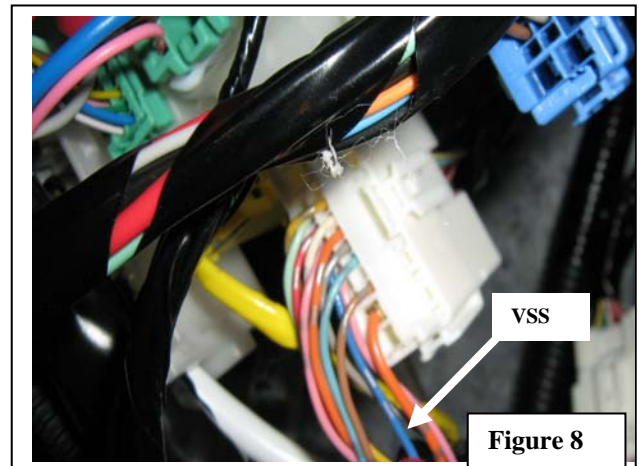

Figure 8
4. **VSS:** Locate the fuse/relay box under the driver side dash. Look for bottom **white connector** between yellow and blue connector. Connect the **Violet Wire** from the Main Wiring Harness to the **Blue Wire** of the connector. **Figure 8**